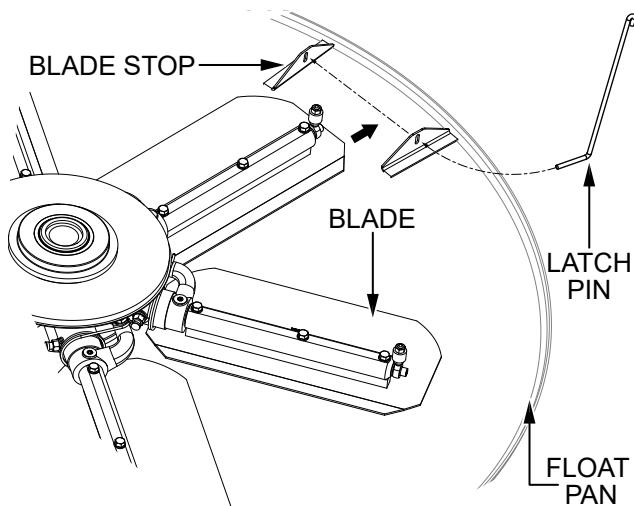

Figure 29. Float Pan Installation (Latch Pins)
2. Lift the trowel just enough to slide a **float pan** under the **blades**. Lower the finisher onto the pan with the blades between the **blade stops** (Figure 29).
3. Route a **latch pin** through the holes in the blade stops as shown in Figure 29.